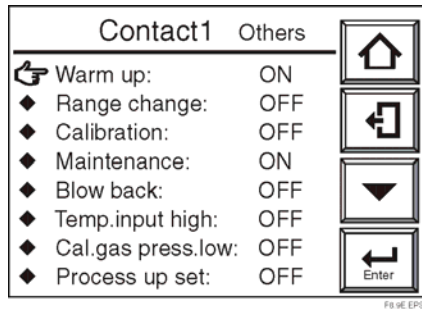

Figure 8-9 "Contact1 Others" Display
6. Select “Others” in the Output contact 1 display screen. The “Contact1” display shown in Figure 8-9 appears. Select Calibration in the Contact1 display screen.